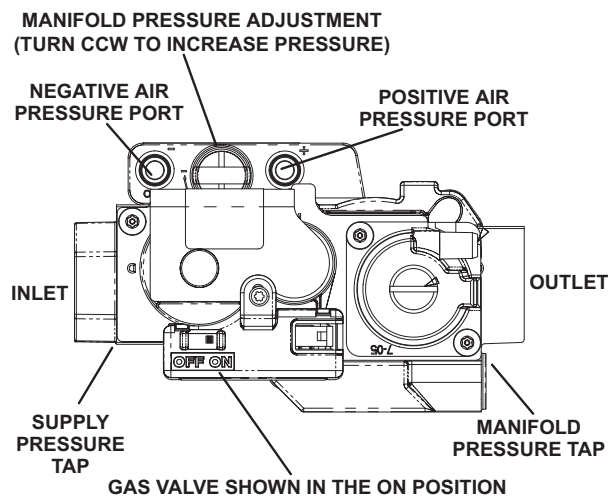

FIGURE 36
- 5 - Move gas valve switch to **OFF**. See FIGURE 35 or FIGURE 36.
- 6 - Move gas valve switch to **ON**. See FIGURE 35 or FIGURE 36.